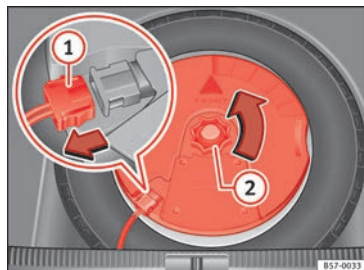

Fig. 231 In the luggage compartment: remove the subwoofer.
- Disconnect the *subwoofer* » Fig. 231 ① speaker cable.
- Turn the securing wheel in an anti-clockwise direction » Fig. 231 ②.